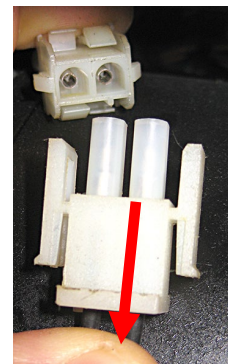

Figure 13
15. Disconnect the two (2) wire blower wiring harness (see Figure 13).